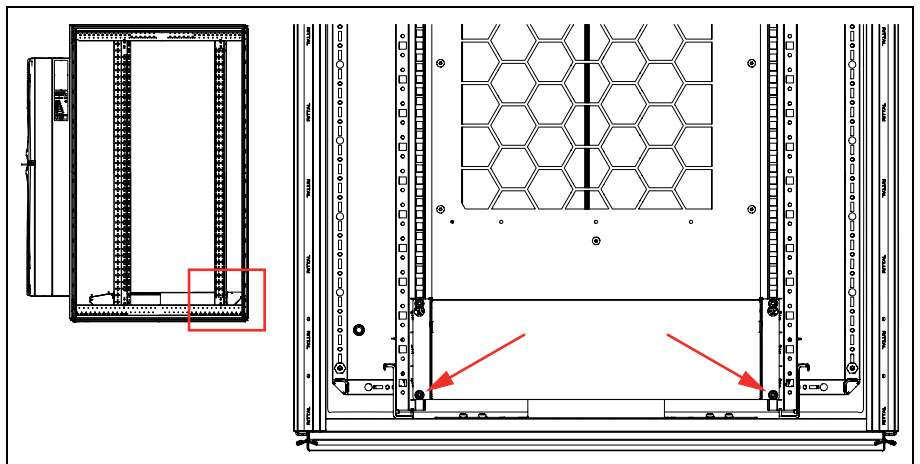
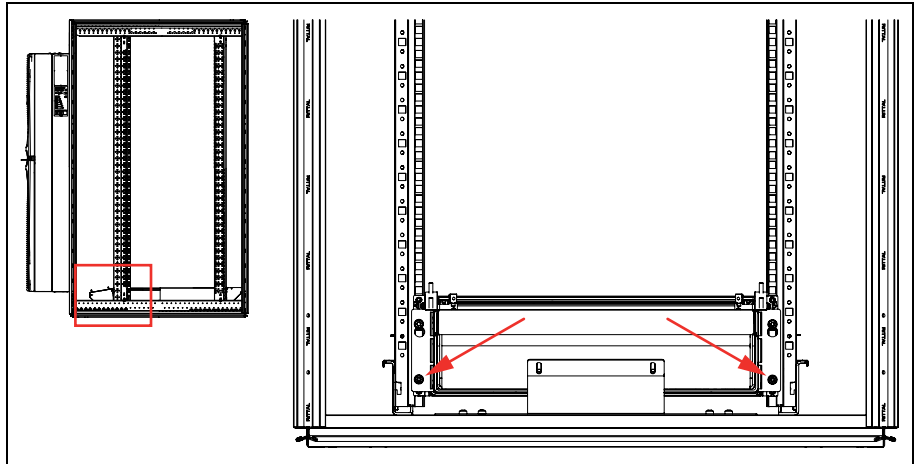

Fig. 14: Attach the front air duct
Fig. 15: Attach the rear air duct
- Using four further screws (pan-head screw I14583/5X16/TX25), each with one plastic washer (washer NZ/5.5), fully connect the air duct to the 482.6 mm (19") mounting angles (fig. 14 and fig. 15). All screws should be tightened with a torque of 3 Nm.